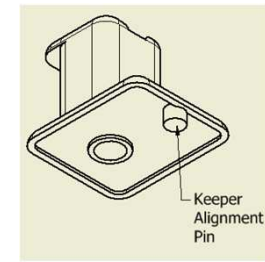

Fig. 1
2. Place the keeper in position. The alignment pin (Fig.1) on the bottom of the keeper should fit into  $1/8"$  the hole nearest the end of the table. Attach latch keepers using (1) #8 x 1-1/2" screw per keeper.
4. Attach draw latches and keeper using (2) #8x 1-1/2" screws per latch